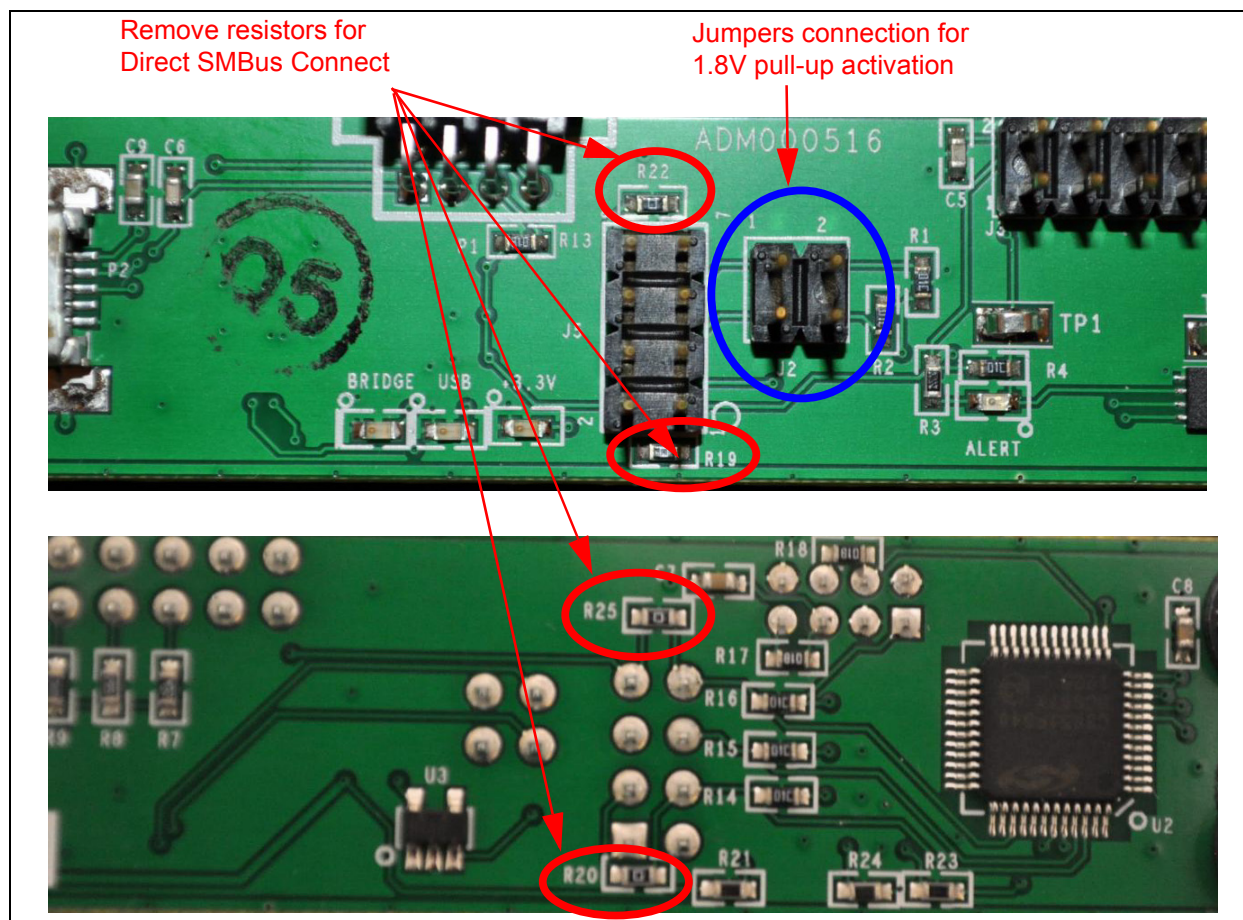

FIGURE 3-1: SMBus Jumper Resistors.
- Remove resistors R19, R20, R22 and R25, shown in Figure 3-1.
A 1.8V (nominal) linear regulator is placed on the board along with the jumpers to connect SDA and SCL to a 1.8V pull-up supply. Once the jumper resistors are disconnected, jumpers connecting J2-1 to J2-2 and J2-3 to J2-4 may be installed to activate the 1.8V pull-ups. This jumper is identified in Figure 3-1 by the blue circle.